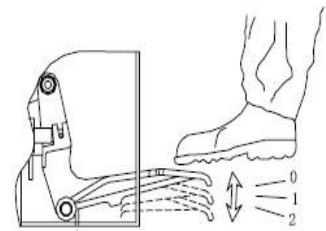
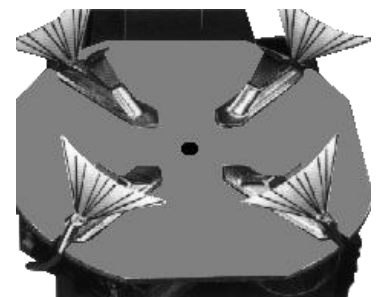

Fig 26
Fig 27
- a. Press Rapid Tire Inflation Pedal to the middle position (Fig 26, position 1), the inflating head should give air.
- b. Press Rapid Tire Inflation Pedal all the way down (Fig 26, position 2), a strong air blast should come from the holes in the four jaws' locking sliders. **(Fig 27)**